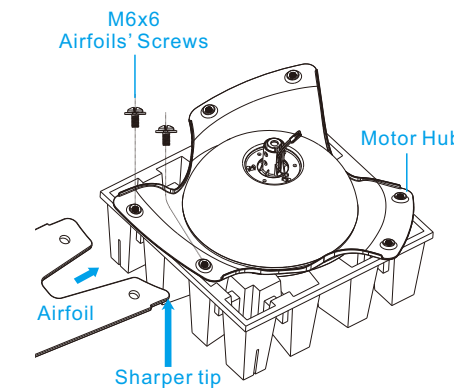

Fig 1.1
- Put out the motor hub from the package box and place it upside down on the motor paper holder. Match the sharper tip of the airfoil with the corresponding place on the hub (the sharper tip is at the right side), align these screw holes and tighten the screws.(Fig.1.1)